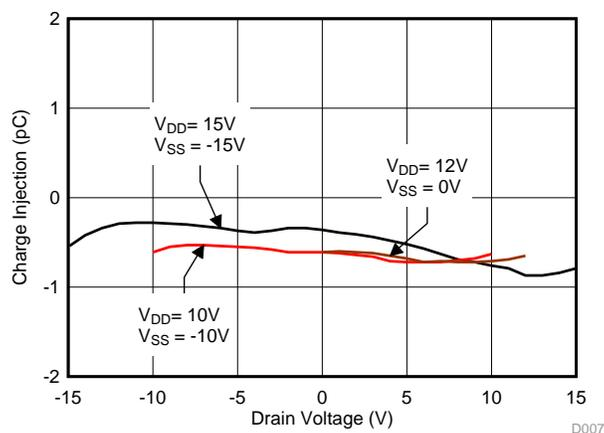

图 31. Charge Injection vs Drain Voltage
The TMUX6136 utilizes special charge-injection cancellation circuitry that reduces the drain (D)-to-source (Sx) charge injection to as low as -0.4 pC at $V_S = 0$ V, as shown in 图 31.